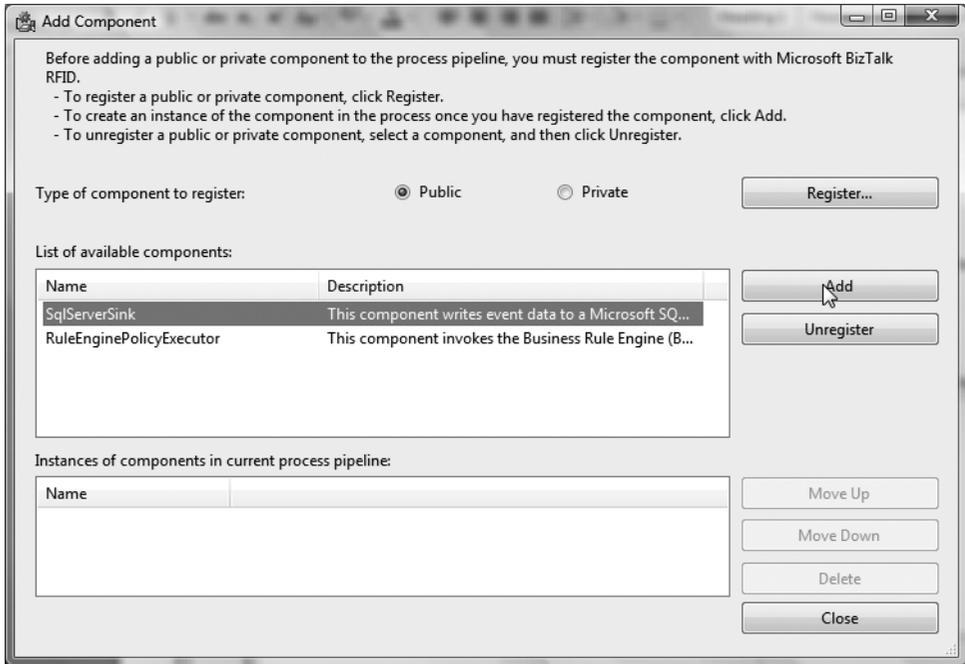

Figure 3-13. *Selecting the `SqlServerSink` component*
- From the Configure Components dialog, click New Component. From the Add Component dialog, select the SQL Server Sink component and click Add, as shown in Figure 3-13.